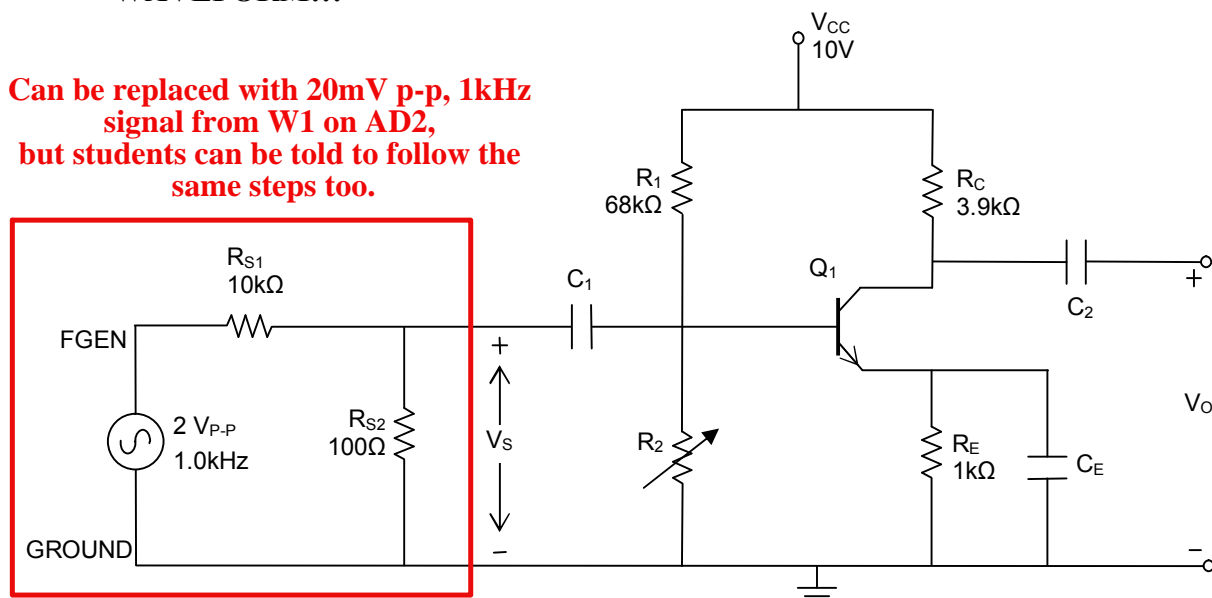

Figure 6.4: CE Amplifier with voltage divider circuit
- Set up the circuit in Figure 6.4 with the capacitors (use $22\mu F$ or $47\mu F$) and voltage divider. To apply V_S to the input of the amplifier, set FGGEN to $2.0V_{P-P}$, 1kHz, as input to the voltage divider, as discussed in step 3. Make sure your input is right by connecting the oscilloscope's CH0 to the function generator. **THIS IS A VERY COMMON ERROR, RESULTING IN WRONG OR UNEXPECTED OUTPUT.** If your input voltage is too large, you will clip the top and/or bottom of your output voltage. **DO NOT MAKE GAIN MEASUREMENTS ON A CLIPPED OR DISTORTED OUTPUT WAVEFORM!!!**